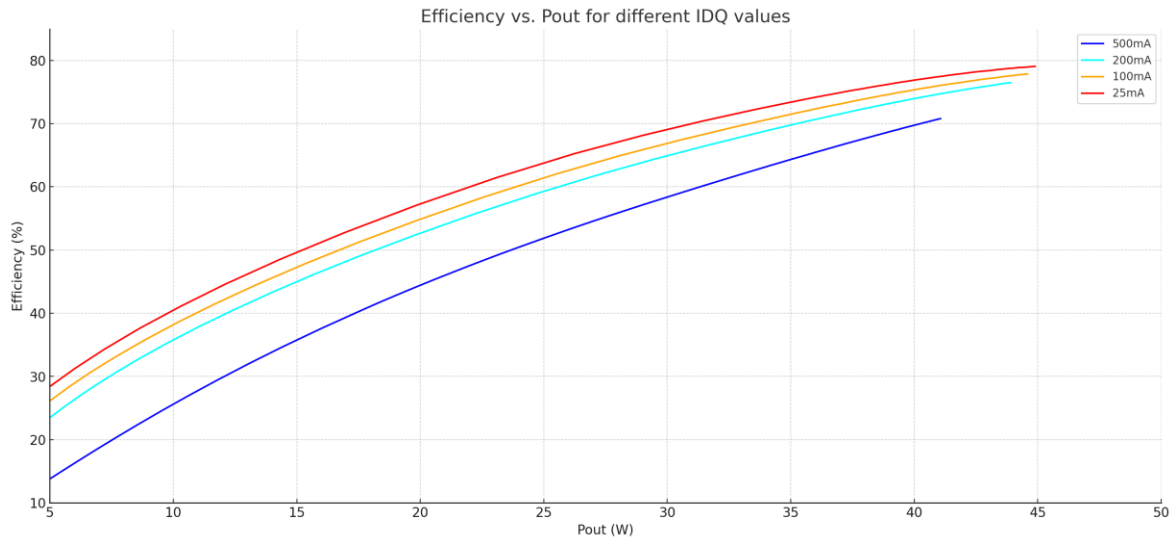

Figure 7 Efficiency vs Output Power at different Idq levels
- Figure 7 Efficiency vs Output Power at different Idq levels 7